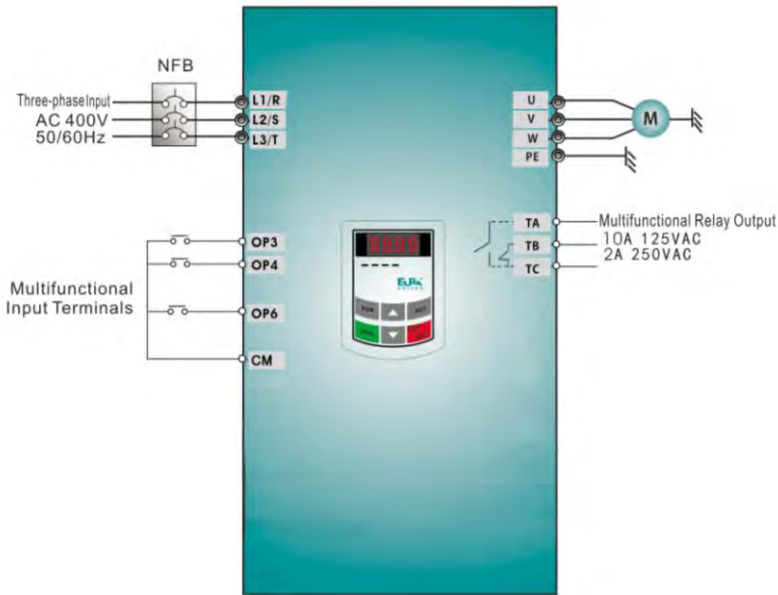

Figure 4-2 Wiring Diagram 2
(1) Connect the wires in accordance with Figure 4-2. After having checked the wiring successfully, switch on the air switch, and power on the inverter;